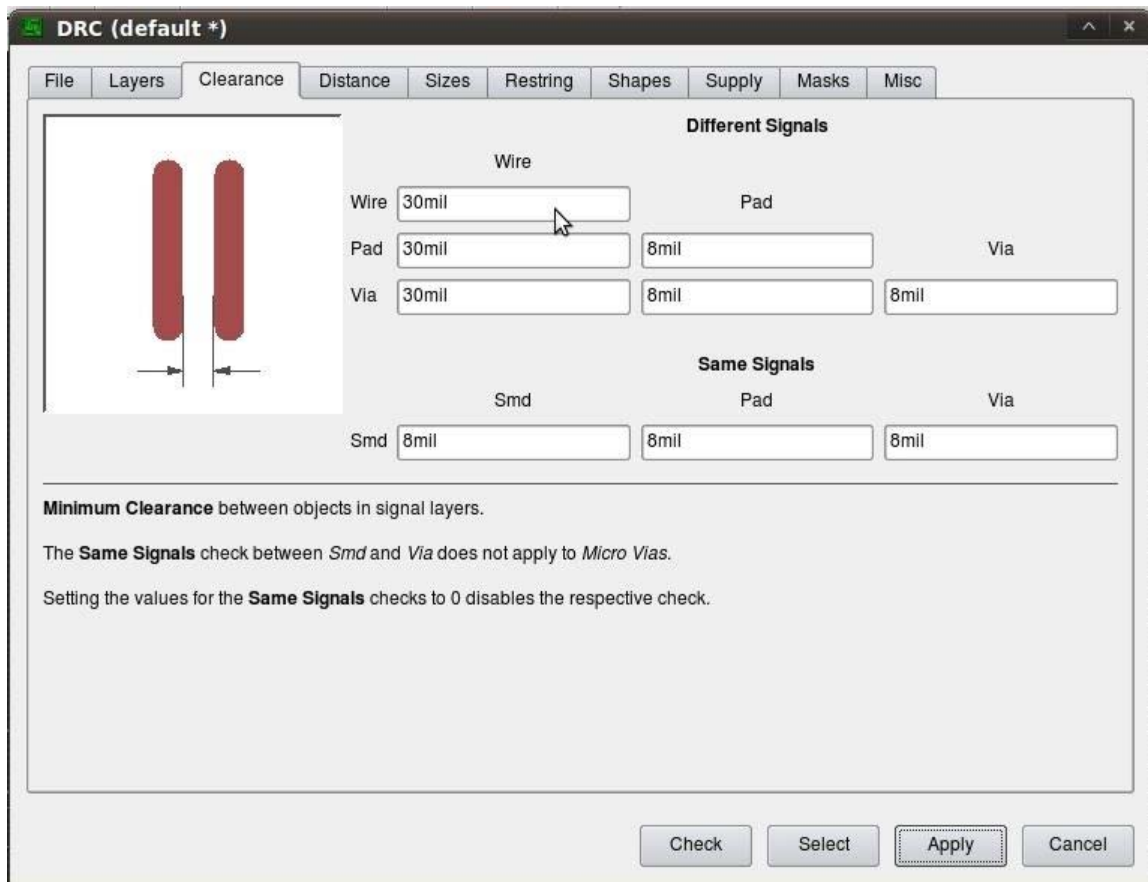

Figure 6-13. Changing the clearances enables more room between traces and the Ground plane.
7. **Set clearances:** Now you need to set the clearances of the Ground plane so the traces are not too close together. Changing the wire clearance makes transferring the design to the copper PCB much easier. Select Tools > DRC from the menu and then go to the Clearance tab. From there, change the first three boxes (under the Wire column) from 8mm to 30mm as shown in Figure 6-13.